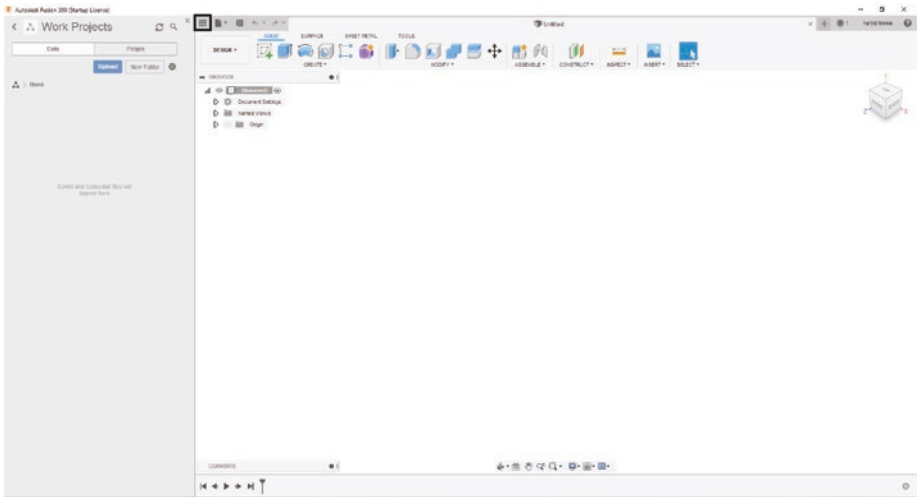

Figure 3-20. Select Data Panel
1. Go to the Data Panel by clicking the Data Panel button at the top left of the screen. See Figure 3-20.